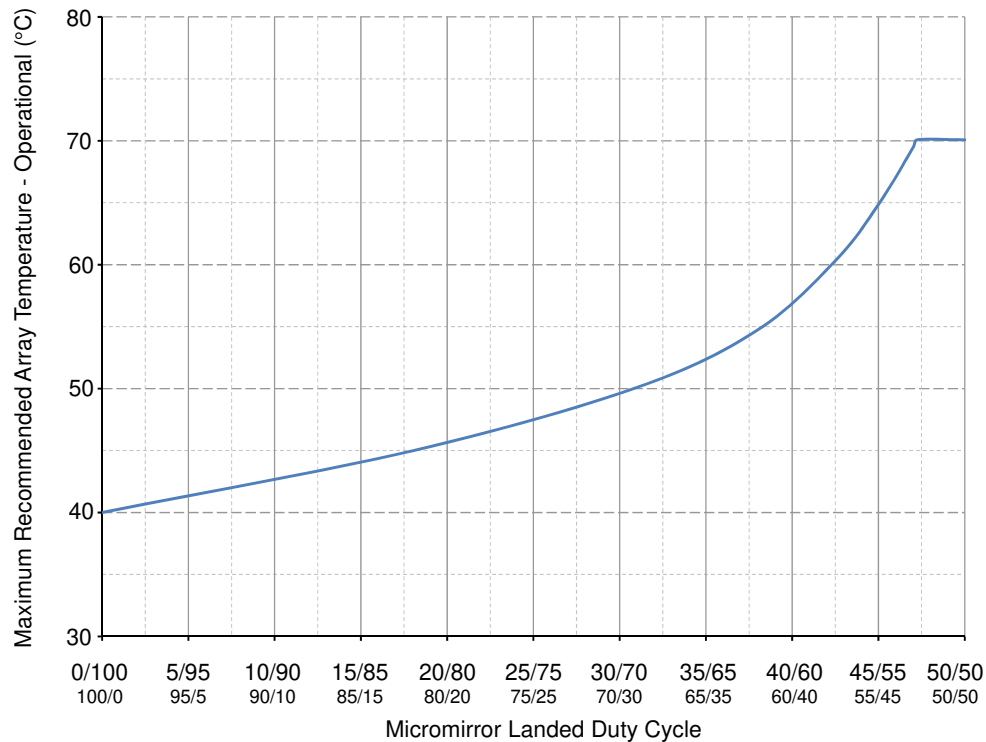

Figure 6-1. Maximum Recommended Array Temperature—Derating Curve
- (13) Per Figure 6-1, the maximum operational array temperature must be derated based on the micromirror landed duty cycle that the DMD experiences in the end application. See Micromirror Landed-On/Landed-Off Duty Cycle for a definition of micromirror landed duty cycle.
- (14) Long-term is defined as the usable life of the device.
- (15) Array temperatures beyond those specified as long-term are recommended for short-term conditions only (power-up). Short-term is defined as cumulative time over the usable life of the device and is less than 500 hours.